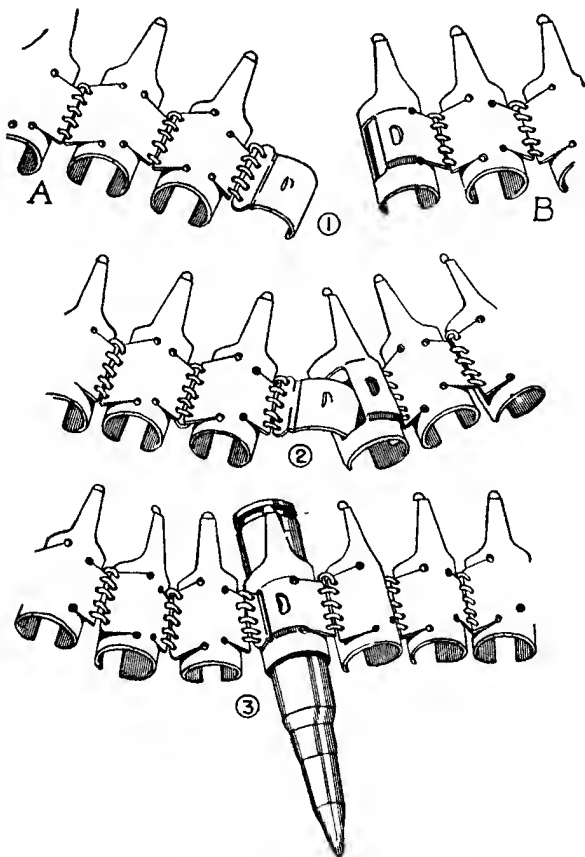

Figure 47.—Method of joining metallic-link ammunition belt.
of any length, but lengths of 250 rounds are usually the longest used. When the gun is moved frequently, and when it is used for antiaircraft purposes, the 50-round belt in the belt drum is employed (see fig. 47).
(2) *To join belts.*—At one end of a belt there is a link with a small semicircular tongue (fig. 47 ① B) and at the other end of the belt (fig. 47 ① B) there is a link with a small rectangular hole in the side of the curved body of the link. To join one belt to another, the tongue on the last link of one belt is slipped through the hole on the first link of the second belt until the small projection on the tongue is over the small D-shaped hole in the center of the curved body of the link (fig. 47 ②). Now place a round in the link and the belts will be locked together (fig. 47 ③). This can be done while the gun is firing.